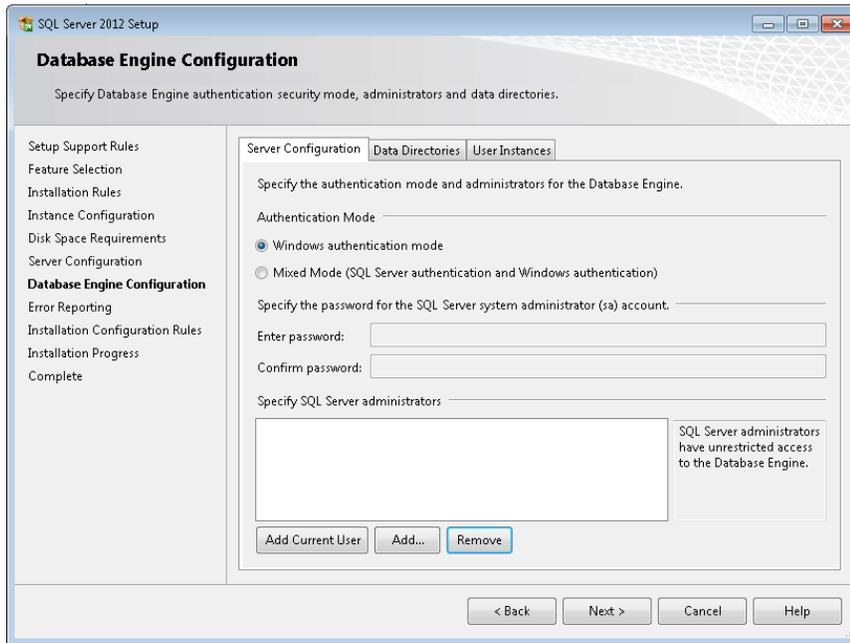

Figure 17: SQL Server 2012 Setup Database Engine Configuration
- 11) At the Database Engine Configuration window (Figure 17), click **Add current user**. Verify the SQL server administrator area displays the user.